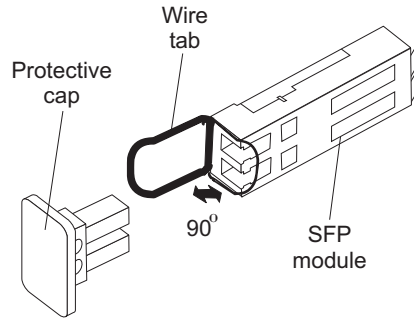

Figure 23. Installing an SFP module into the host port
4. Insert the SFP module into the host port until it clicks into place. See Figure 23 on page 45.